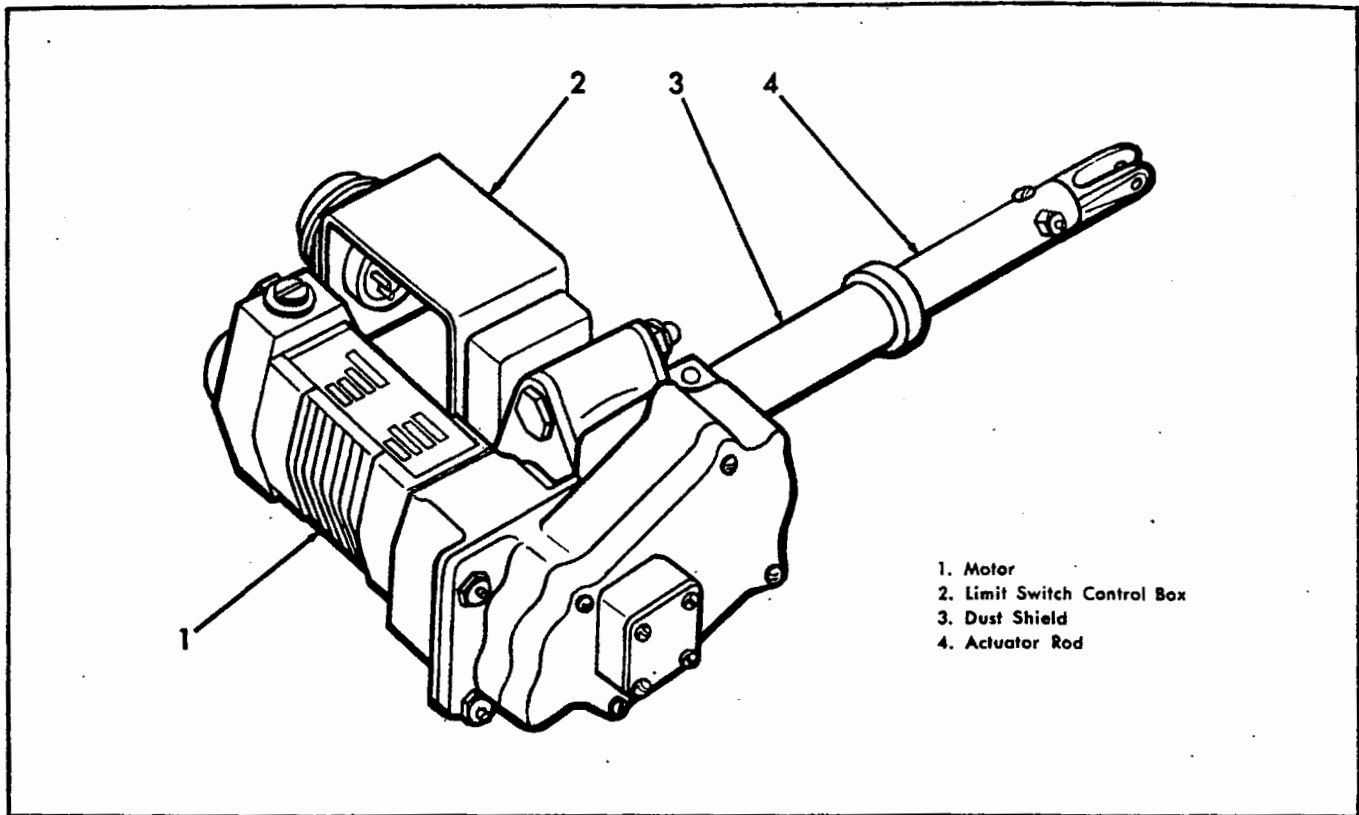

Figure 4-22. Trim Tab Linear Actuator.
4-138. DESCRIPTION. (See figure 4-22.) The aileron tab actuator, manufactured by Lear, Inc., their part number 401-V, is an electrically operated mechanism which deflects the aileron tab in the direction required to raise or lower an aileron in flight. The actuator is energized through a toggle switch located on the left hand console in the cockpit. The actuator itself is located in the left hand outer panel between stations 100 and 106, adjacent to the aileron actuating rod, approximately midway between the outer panel aileron actuating bellcrank and the aileron leading edge. An access door in the bottom of the wing permits access to the actuator. Basically, the actuator is an electric motor (1) (Lear A100V2), 24 volt series wound, split field, reversible, intermittent duty motor, with a "Faststop" electromagnetic clutch and brake. It furnishes power